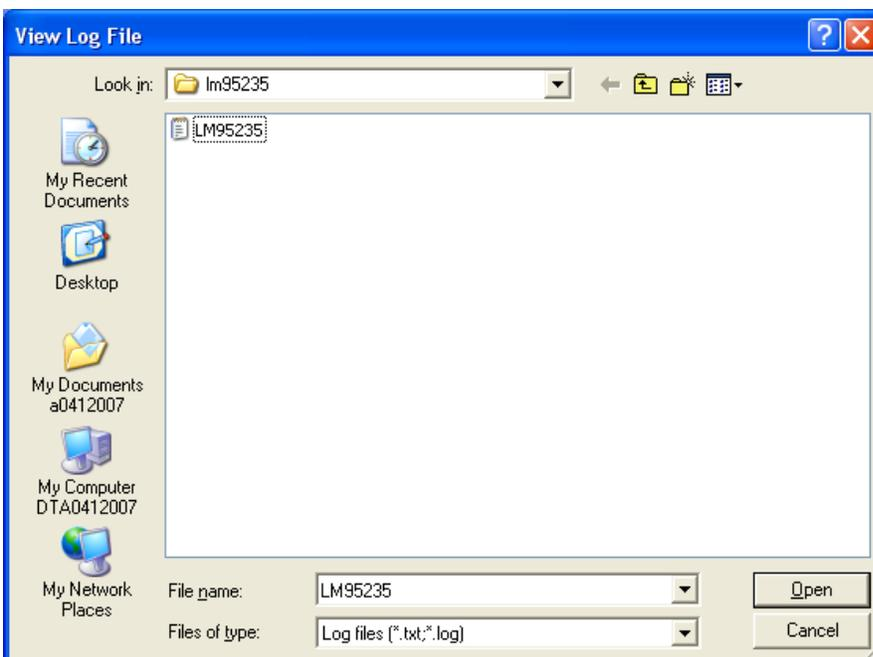

Figure 12
- At the same time you can also press the “Start Log” button to capture temperature data in a log file. Press the “Stop Log” button to stop data logging and capture the file. Press the “File” then “View Log” in the pull down menu to see the log file as shown in Figure 12 below.